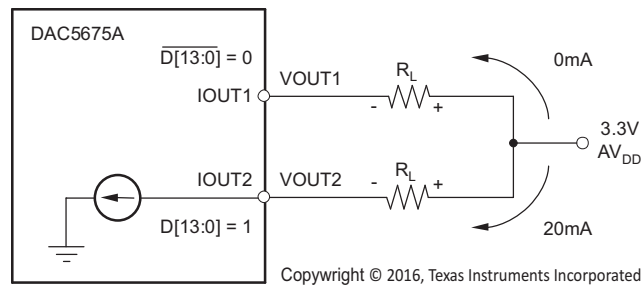

Figure 20. Relationship Between D[13:0], IOUT1 and IOUT2
The output current flow in each pin driving a resistive load can be expressed as shown in Figure 20, as well as in Equation 2 and Equation 3.
Figure 21 shows a simplified schematic of the current sink array output with corresponding switches. Differential NPN switches direct the current of each individual NPN current sink to either the positive output node IOUT1 or its complementary negative output node IOUT2. D[13:0] controls the S(N)C current switches and D[13:0] controls the S(N) current switches, as explained in the previous **DAC Transfer Function** section (see Figure 20). The output impedance is determined by the stack of the current sinks and differential switches, and is $> 300k\Omega$ in parallel with an output capacitance of 5pF.